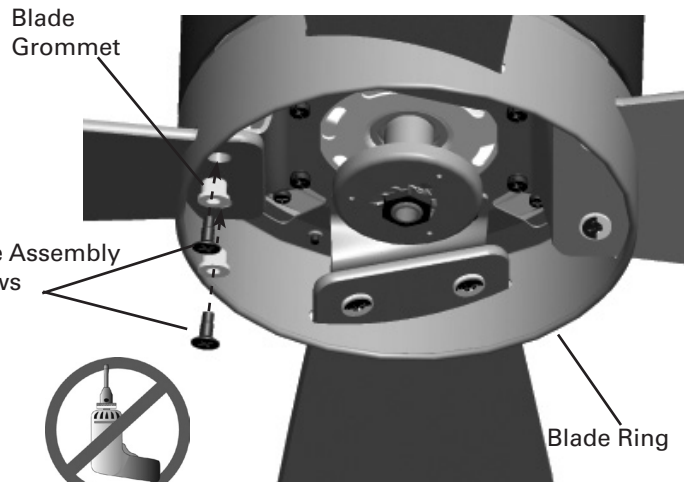

FIGURE 2.
Step 2. Using the two blade grommets and blade assembly screws, attach the blade to the blade ring by inserting a grommet then a blade assembly screw into the blade as shown in Figure 2.